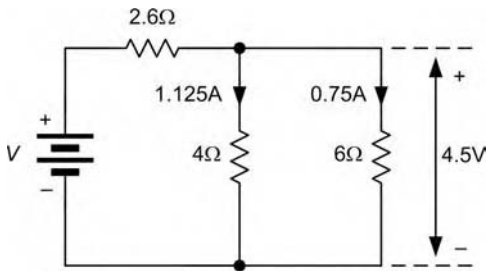

Figure 5.35 Using Ohm's law to find the current flowing in the 4 Ω resistor.
- (b) Now the 4 Ω resistor is connected in parallel with the 6 Ω resistor. Hence the voltage drop across the 4 Ω resistor is also 4.5 V. We can now determine the current flowing in the 4 Ω resistor using Ohm's law (Figure 5.35):